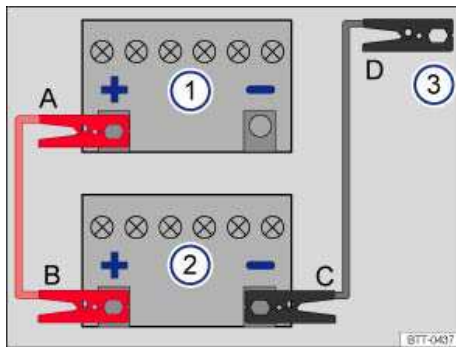

Fig. 206 Diagram for attaching the jumper cables: Dead battery 1 and booster battery 2.
⇒ fig. 206 A – B – C – D.
3. Attach one end of the *red* jumper cable to the **positive terminal (+)** ⇒ fig. 206 of the dead battery: